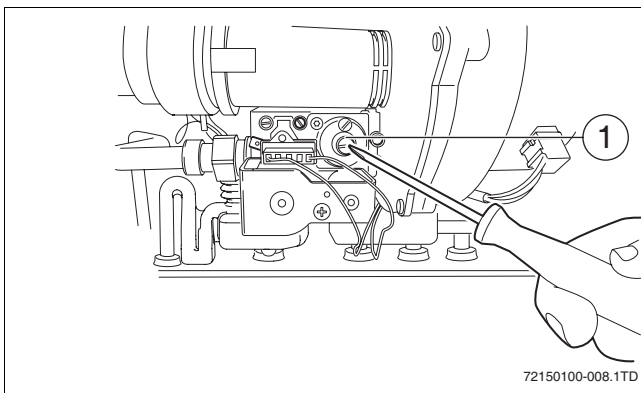

Fig. 9 Setting the gas/air ratio
- ▶ If the gas/air ratio is not correct it can be adjusted using the adjustment screw (\rightarrow fig. 9, [2]). The adjustment screw is located behind the cover screw.